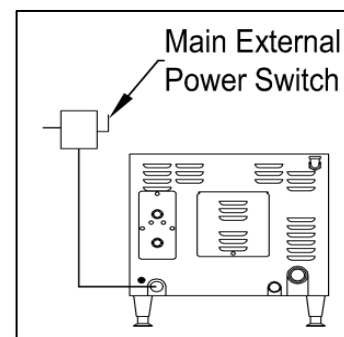

Figure 5-1
- Turn ON the Main External Power Switch. See Figure 5-1.